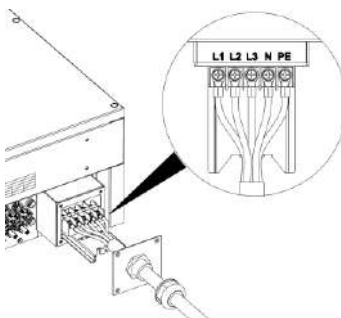

Figure 4.21 Connection of wire and connector
- (6) The connection of AC cable and the connector should be correct and the screws are tightened. The tightening torque is $2\text{N}\cdot\text{m}$, as shown in Figure 4.21.